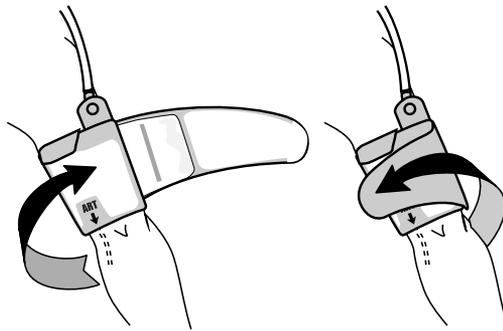

Fig 3 - Positioning the cuff
- Position the markings on the cuff (arrow and “ART”) opposite the artery and wind the cuff evenly around the arm (fig 3).